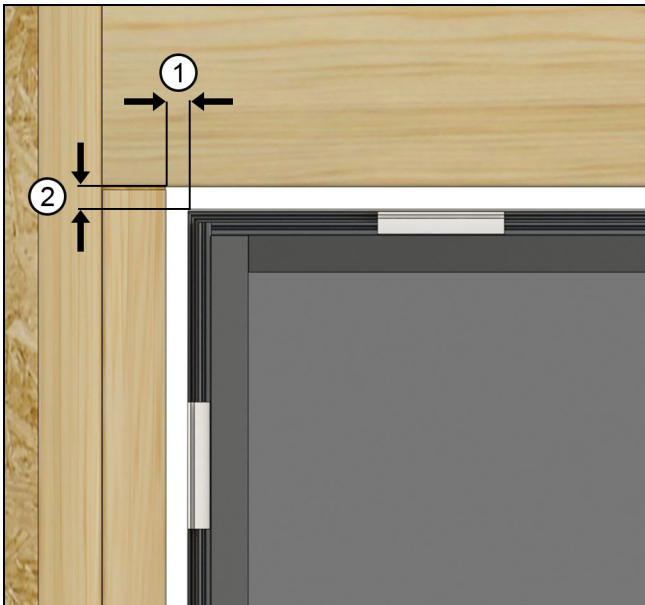

Figure 3 RO Width and Height clearance
1. Rough opening (RO) width may be up to 1 1/2" (38) wider (3/4" maximum on each side) than the outside measurement (OM) of the frame. The RO height may be a maximum of 3/4" taller than the OM of the frame. See Figure 3.